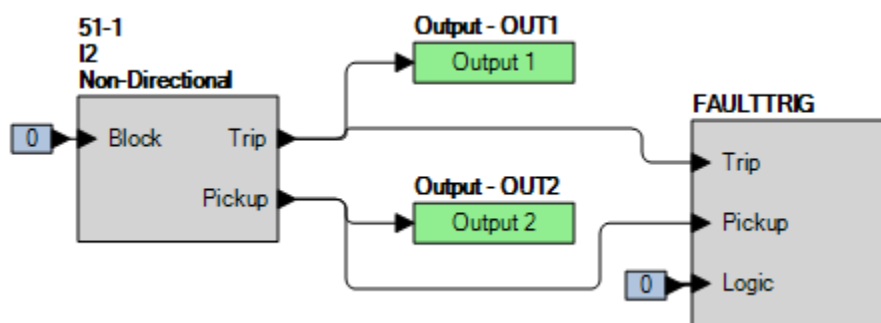

Figure 74-3. BESTlogicPi Settings (I2 Mode)
Step 2: Use BESTCOMSPius to configure the BESTlogicPius programmable logic shown in Figure 74-3.
Step 4: Prepare to monitor the 51-1 function operation. Operation can be verified by monitoring OUT2 (see Figure 74-3).